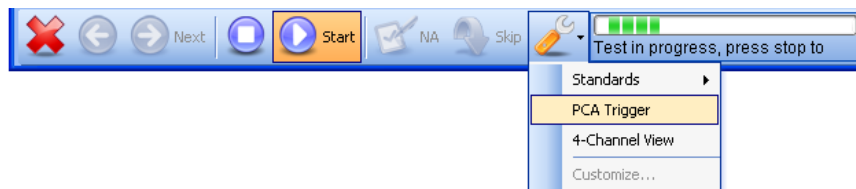

Figure 3-21. Toolbar PCA Trigger
5. If the PCA pump (Device Under Test or DUT) is a manually triggered device, click on the PCA trigger button that is connected to the DUT. If the DUT is an automatically triggered device, click on the **PCA Trigger** in the Tools drop-down list in the Test Guide toolbar. See Figure 3-21.